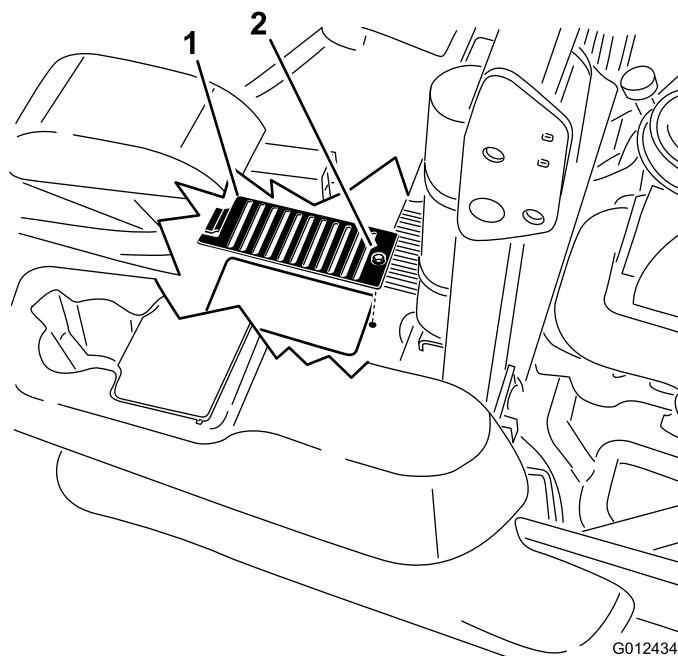

Figure 70
6. Over each dipstick, remove the cover and the bolt attached to the cover. Clean around each dipstick and hydraulic unit (Figure 70).